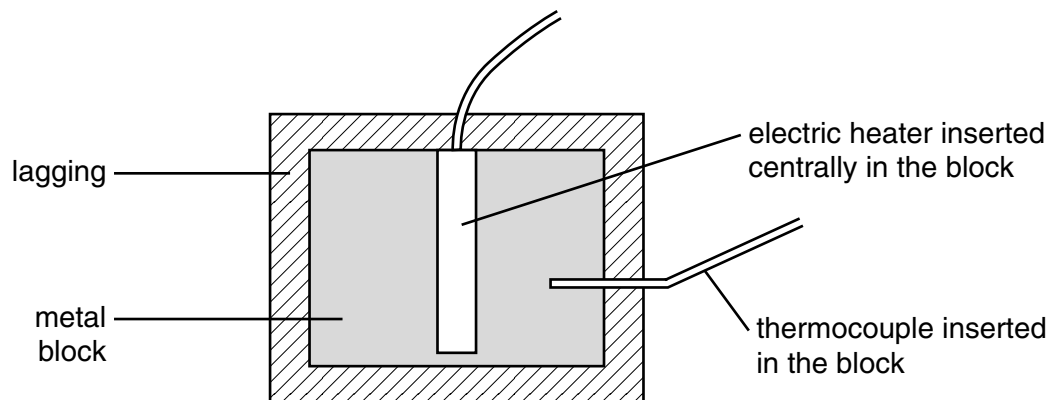

Fig. 2.1
- 2 Fig. 2.1 shows a piece of apparatus which could be used to find the specific heat capacity of a metal at high temperatures.